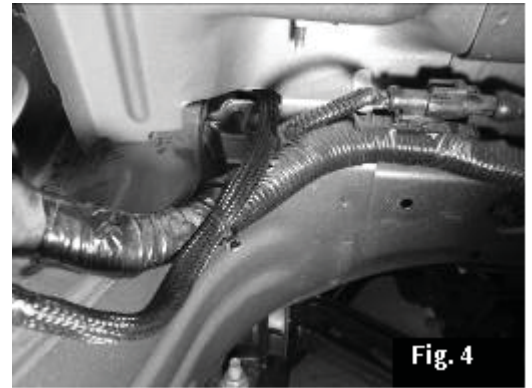

Fig. 4
7. Route the power harnesses down to the small opening near the fire wall that leads into the fender well area. Fig. 4